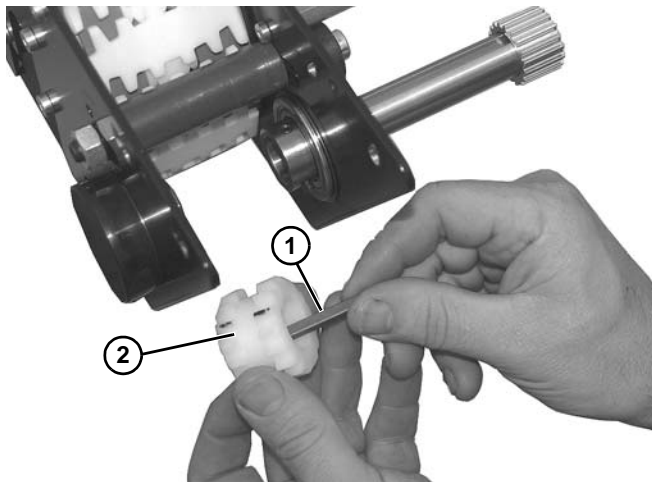

Figure 153
17. Remove key (**Figure 153, item 1**) from sprocket (**Figure 153, item 2**).